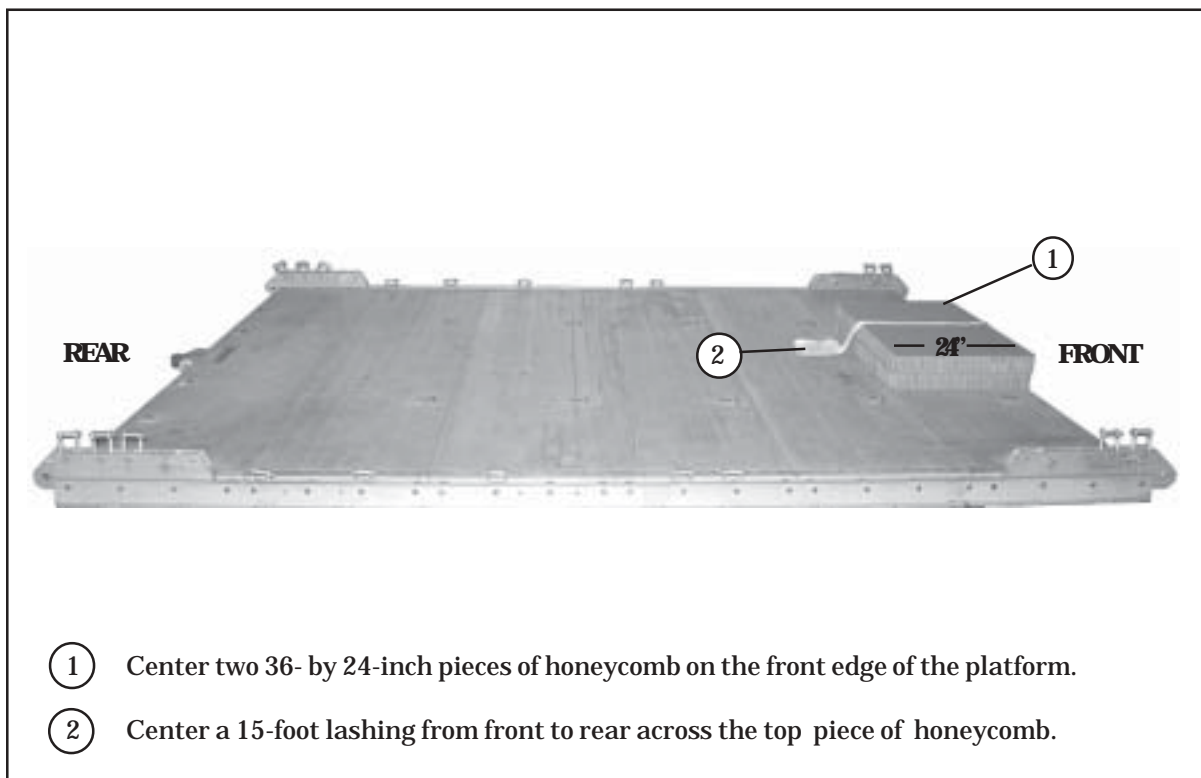

Figure 3. Honeycomb and Lashings Positioned on the Front of the Platform
3. Position and lash the accompanying loads on the platform as shown in Figures 3 through 8.